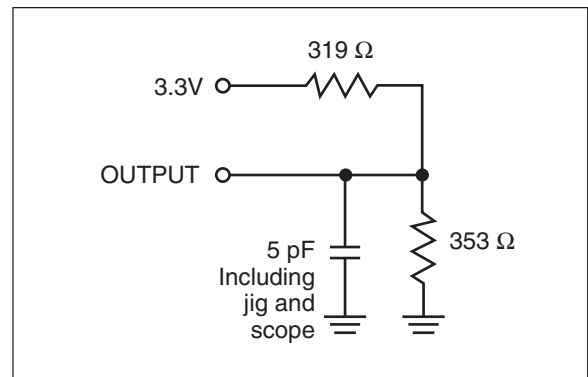

Figure 1b.
2. Tested with the load in Figure 1b. Transition is measured  $\pm 500$  mV from steady-state voltage. Not 100% tested.